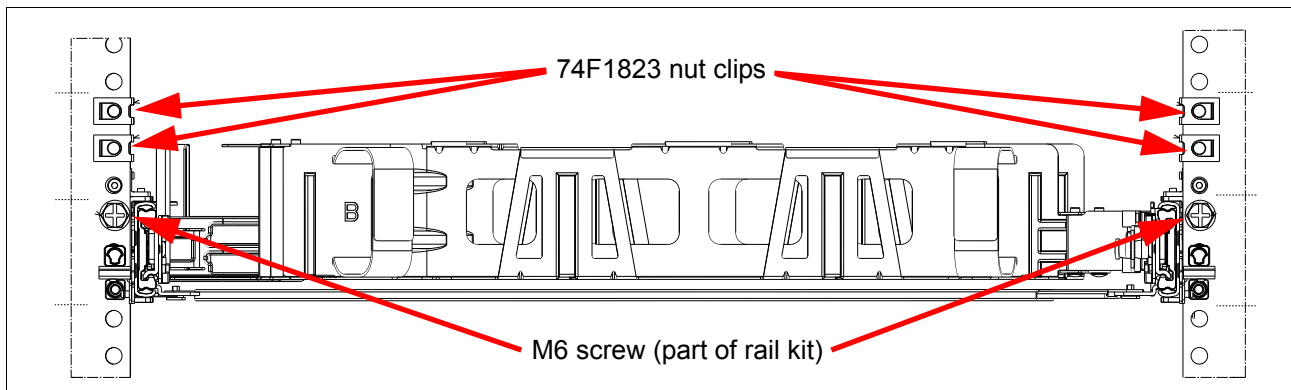

Figure 2-3 Screws and nut clips for the I/O enclosure rails (front)
- c. Install the nut clips (part number 74F1823) and M6 screws from the rail kit at the front of the enclosure. See Figure 2-3.